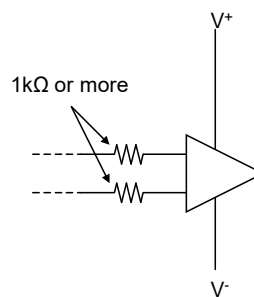

Fig.5
- / limiting a parasitic circuit operation by inserting a resistance ( $1k\Omega$  or more) (Fig.5).